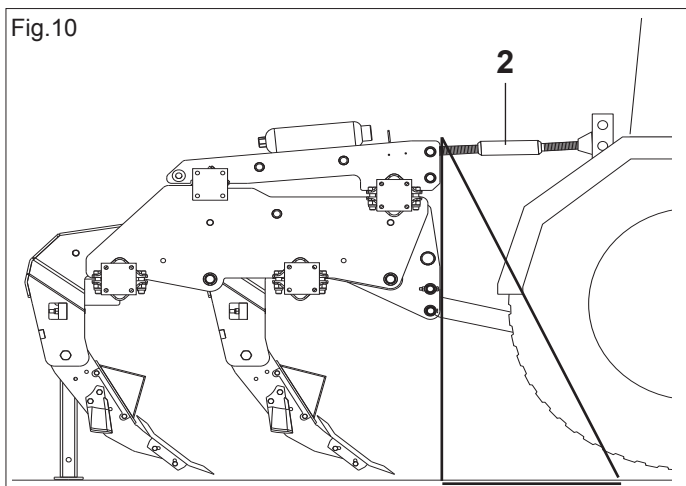

Fig.10
- 2) Connect the third upper point (2 Fig.10); the pin will be blocked with the appropriate split pin; use the adjustment tie-rod (2 Fig.10) to keep the equipment parallel to the ground.